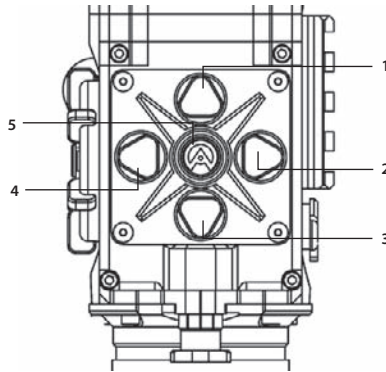

FIGURE 3-18. BUTTON CONTROL PANEL
The Apollo button control panel is shown in Figures 3-18.
Table 3-2 contains direct access functions of the buttons and their brief descriptions. ITEM NO. column of the table indicates the number used to identify buttons in Figure 3-18.
To display the MAIN MENU, push and hold down the MENU button (5) on the control panel (Figure 3-18).